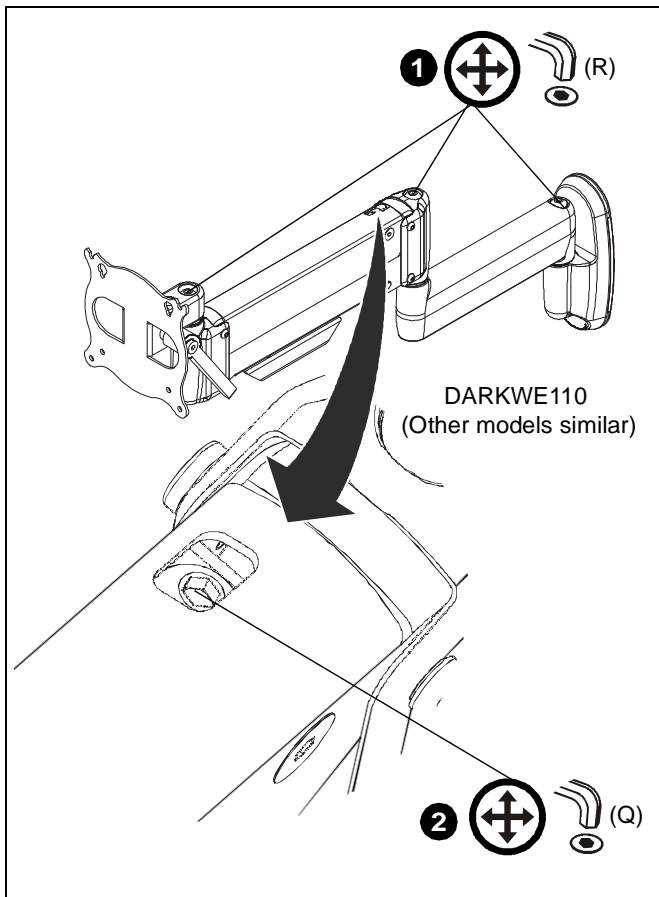

Figure 12
1. To adjust extension/swivel, slightly loosen or tighten adjustment screws using hex key (R) (See Figure 12). Adjust screws **ONLY** as required to achieve desired tension.
2. To adjust height tension, slightly loosen or tighten adjustment screw as necessary using hex key (Q) (See Figure 12).